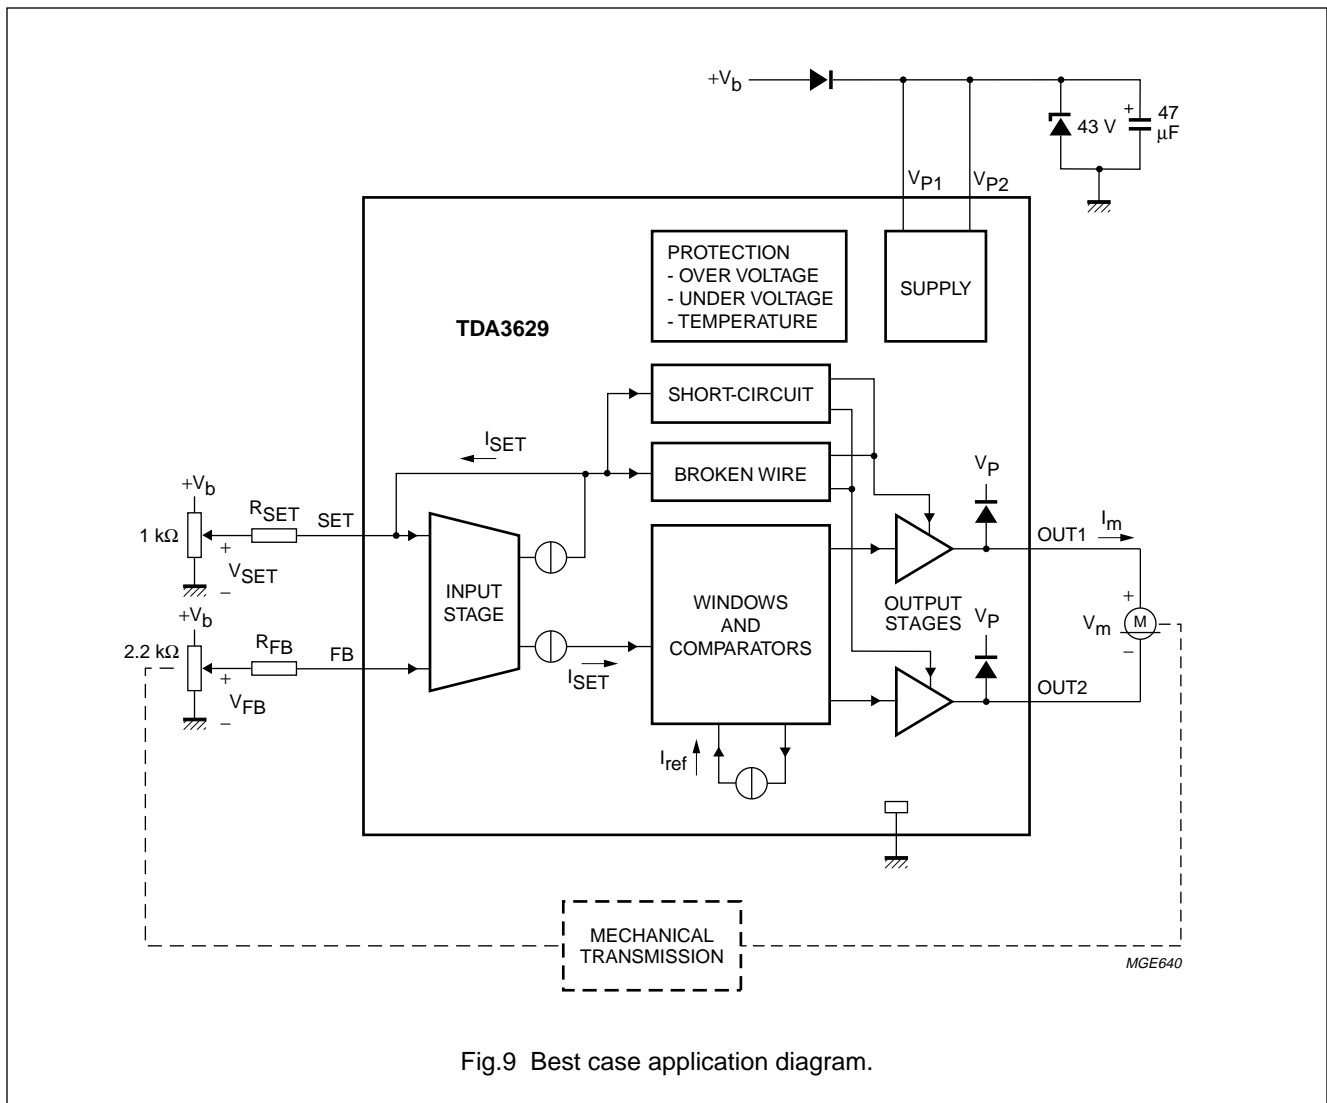
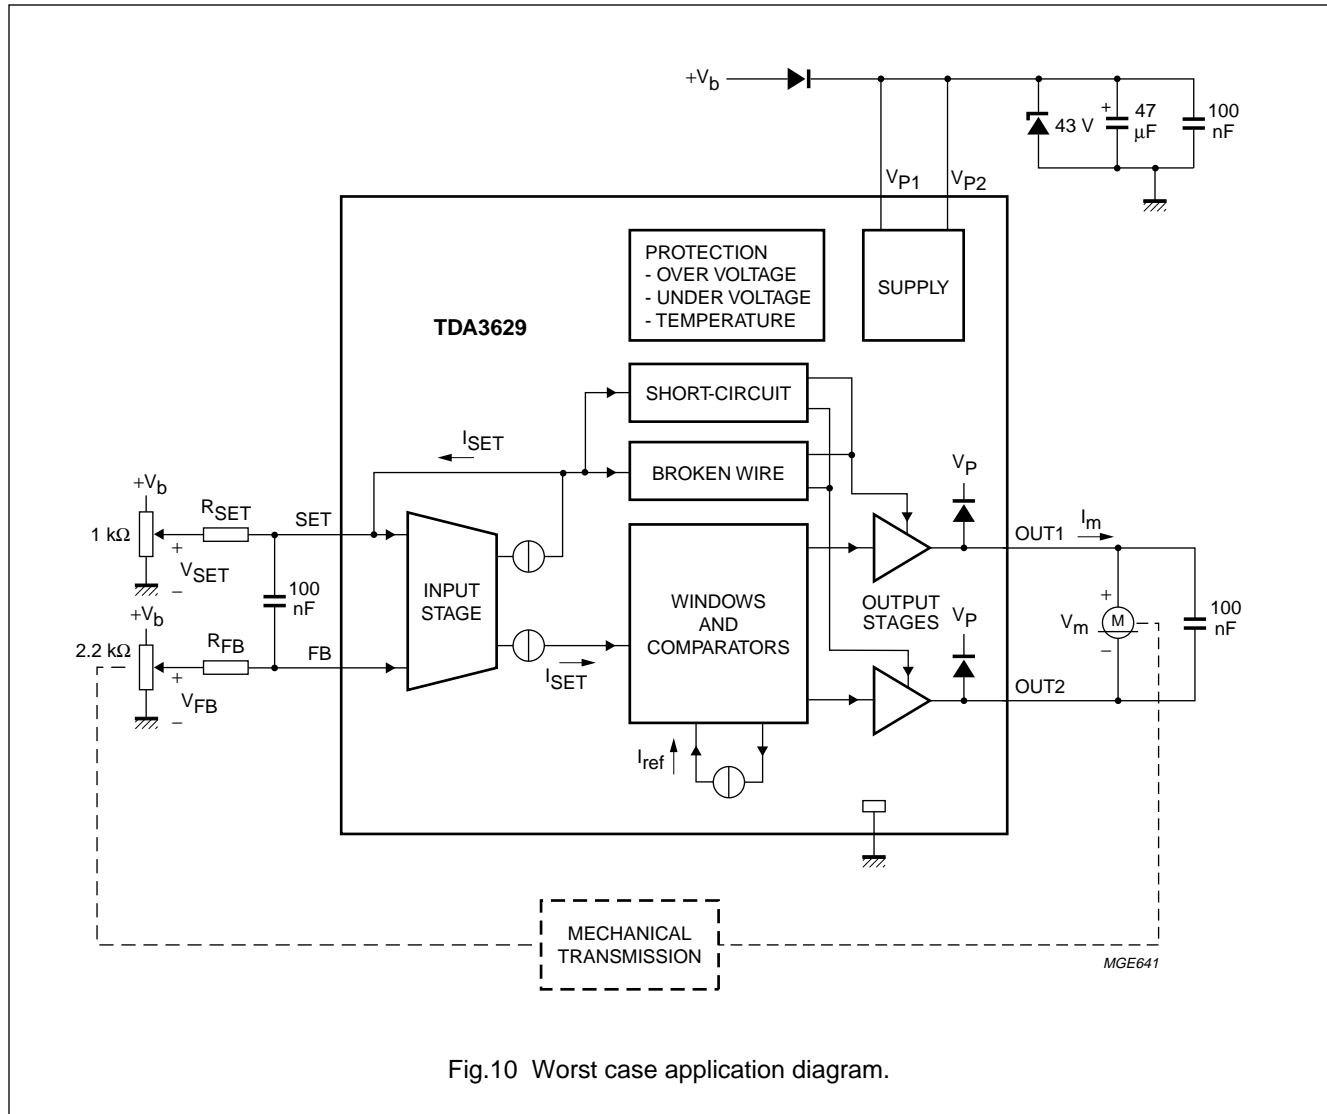

Fig.9 Best case application diagram.
Fig.10 Worst case application diagram.
The timing can be divided into several parts starting from a steady state (see Fig.5, the starting point, and Fig.10 for the application diagram): in this state (until  $T_1$ ) a large reference current is active, indicated by the dotted lines. When the setting potentiometer is rotated (started at  $T_1$  and indicated by  $V_{SET}$ ) and the input current  $I_{SET}$  becomes higher than the reference current  $I_{ref}$  (at time  $T_2$ ), the motor will start and the input current will decrease. At the same time the reference current is switched to a low level. During rotation of the motor the input current will decrease until it becomes lower than this low reference current;
In accordance with the Absolute Maximum Rating System (IEC 134). All voltages are defined with respect to ground. Positive currents flow into the device. Values measured in Fig.10.
- Wave forms illustrated in Figs 7 and 8 applied to the application diagram, Fig.10.
$V_P = 12\text{ V}$ ;  $R_L = 14\ \Omega$ . All voltages are defined with respect to ground. Positive currents flow into the device. Values measured in Fig.10 with  $R_{SET} = R_{FB} = 20\text{ k}\Omega$ ; unless otherwise specified.
Worst case transients that may occur on the battery line  $V_b$  of the application (see Fig.10), are the pulses whose wave forms and the corresponding values are as illustrated in Figs 7 and 8. The signal source which generates these pulses (numbered pulses 1 and 2) has a series resistance ( $R_i$ ) of  $10 \Omega$ . These pulses represent for instance the influence of switching of inductors on the battery line. The signal source which generates pulses 3 and 4 has a series resistance of  $50 \Omega$ . These pulses represent for instance the influence of ignition on the battery line. Their repetition rate is 100 ms.
Two possible application diagrams are shown. The first (see Fig.9) shows the best case: the lowest component count. The second (see Fig.10) shows additional components which may be necessary. Two capacitors are added to meet EMC requirements (one on the  $V_P$  pins, the second one between the set and feedback input pins). A third capacitor has been added across the motor to suppress current spikes. The given values of these capacitors have to be optimized by experiments carried out on the total application. The resistors do not have to have the same value. The voltage hysteresis is set by means of  $R_{SET}$ .